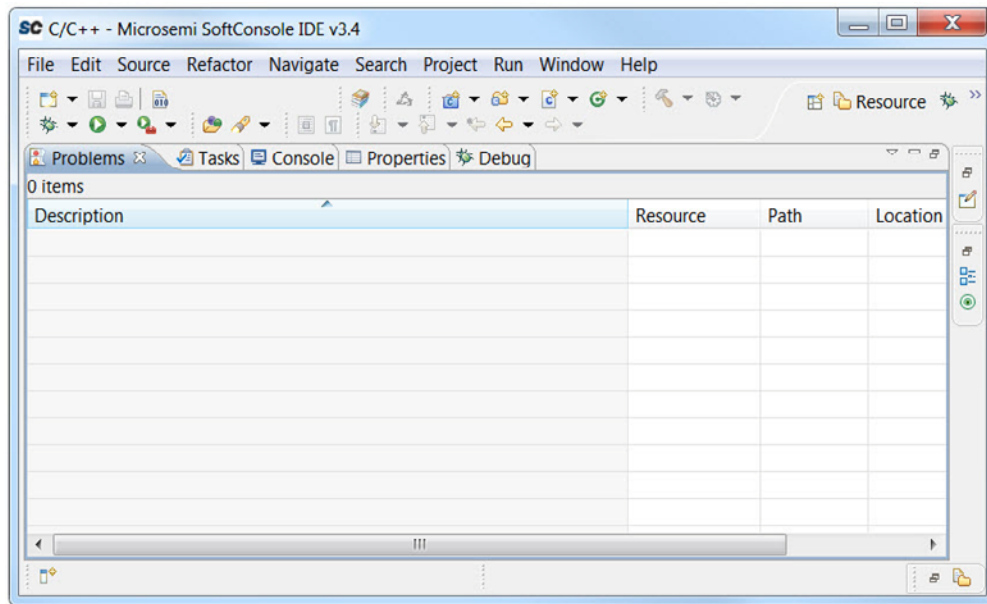

Figure 6-3 • Softconsole Problems tab
5. Click the **Problems** tab and make sure there are no errors and warnings. Correct errors before you continue (Figure 6-3).